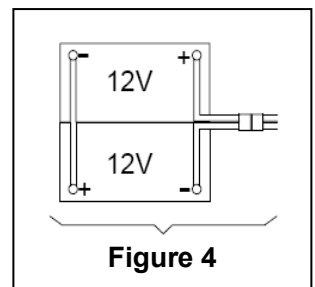

Figure 4
This machine needs two (2) 12V batteries. Please connect as shown in Figure 4 on the right.